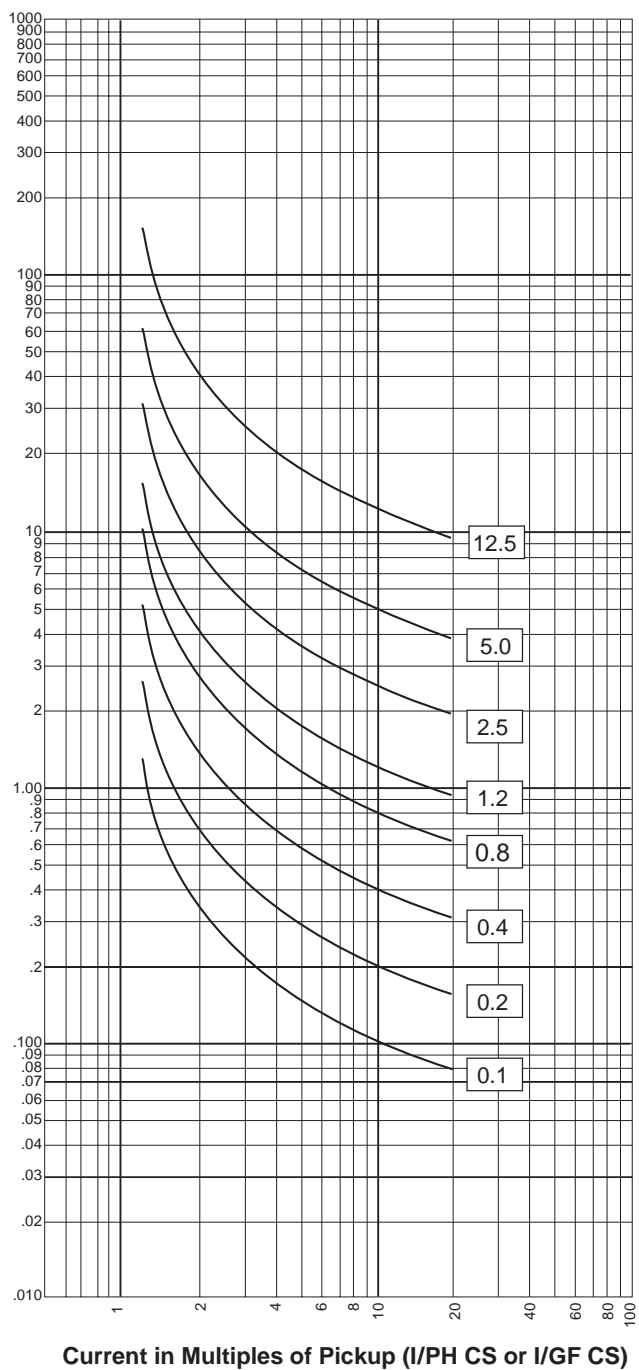

Figure 59: Standard inverse time (SIT) curve
- SIT: standard inverse time curve (figure 59, page 54)